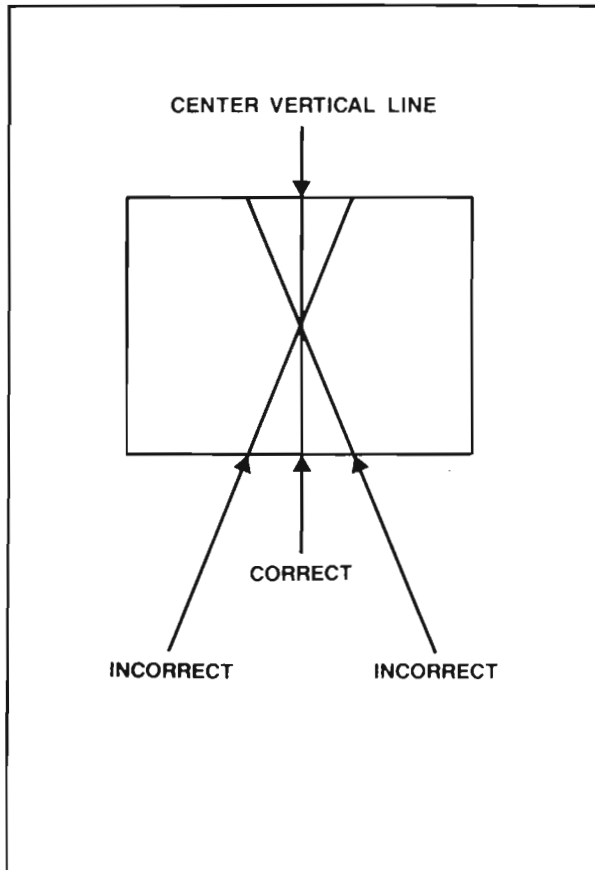
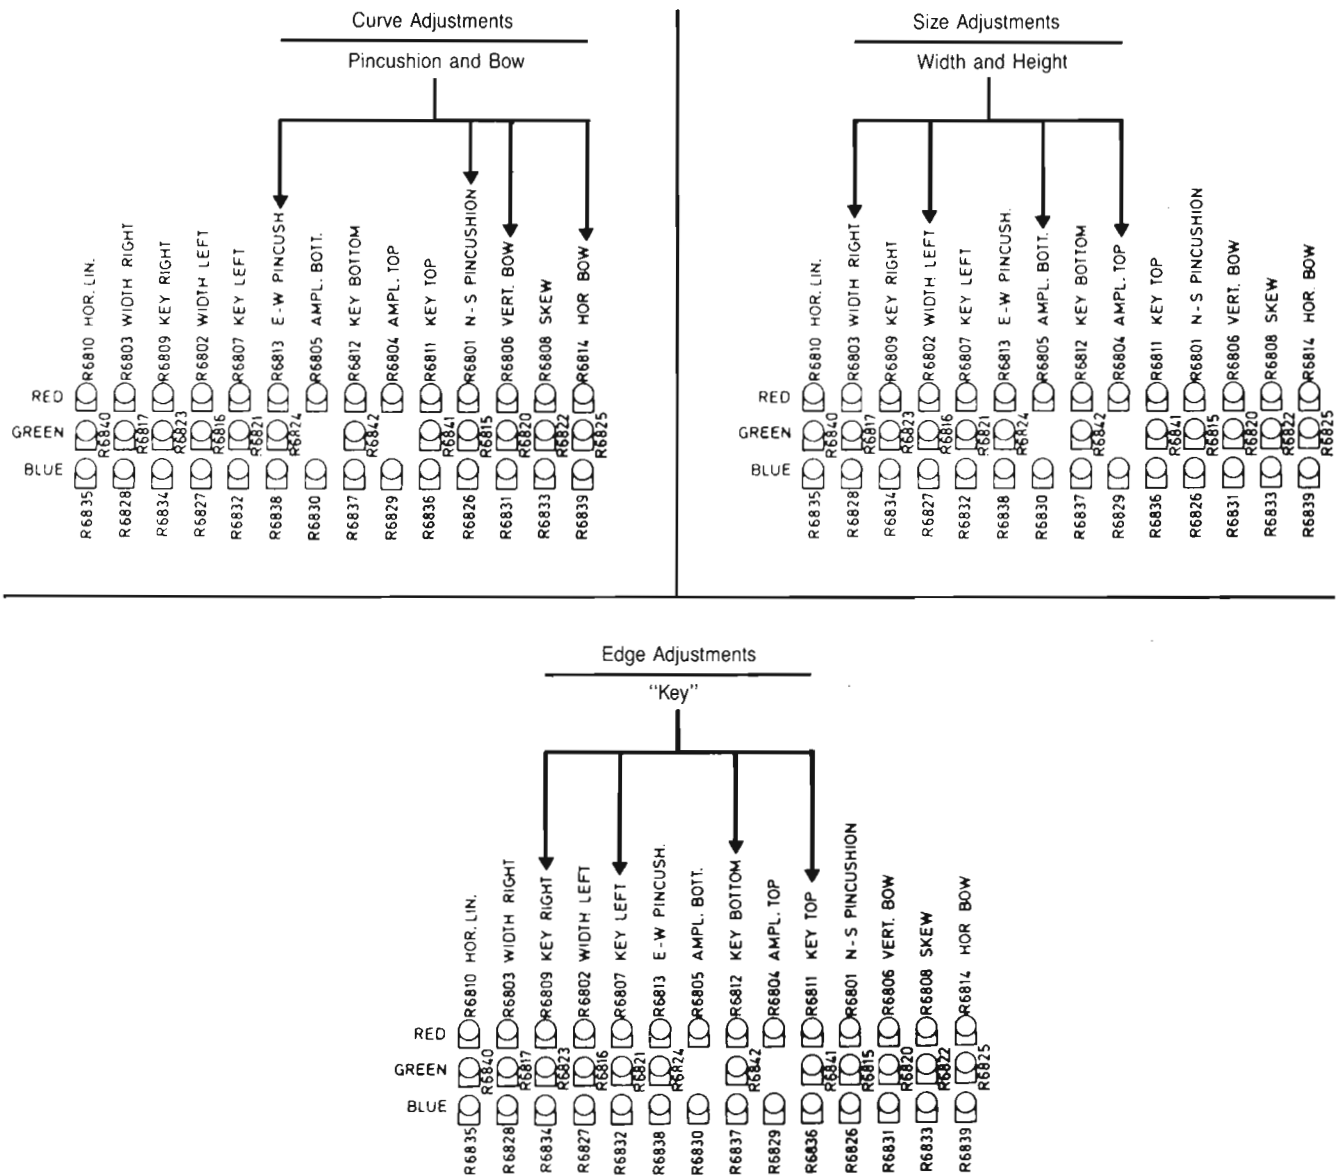

Figure 14
Figure 19
- If it is not, locate the control marked “skew” (See Figure 19.) and adjust to correct problem. (See Figures 14 and 15.)
(See Figure 19 for Convergence Control Layout.)